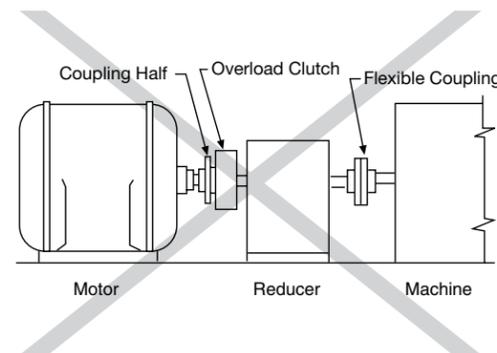
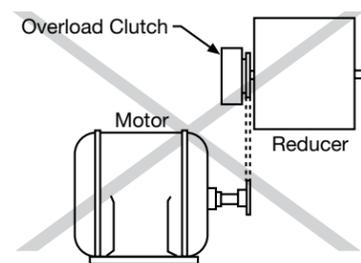

Figure 8
Figure 10
- Locating the clutch as shown in Figure 8 is not preferred. Here the clutch is mounted on the high-speed side of the reducer. Generally, mounting in this manner requires the clutch to be too hypersensitive to perform satisfactory.
- The mounting location in Figure 10 is not preferred for the same reasons as those for Figure 8. Always consult the factory when a mounting of this type is necessary.